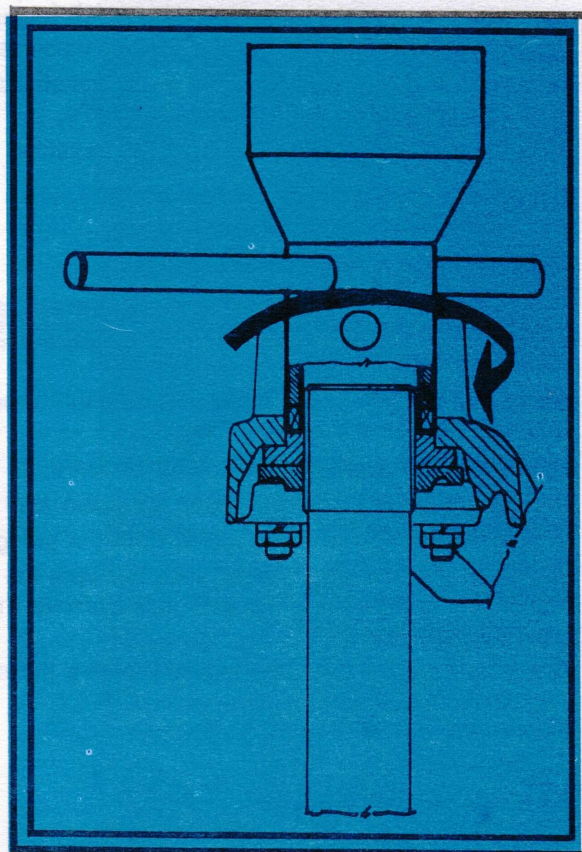

Fig. 38 - Tighting of steering head.
- use the other side of the jig. No. 1 to remove the nut of the steering bearings (Fig. 38),